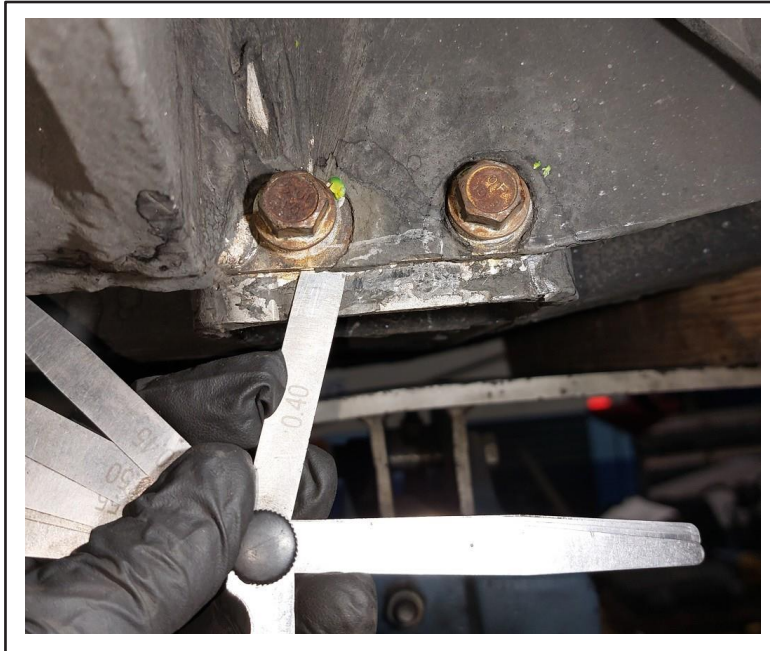

Figure 1 - Checking gap between the frame and cradle using filler gauge
- 1.8. Using a filler gauge, check for the gap between the frame and the cradle (see figure 1).